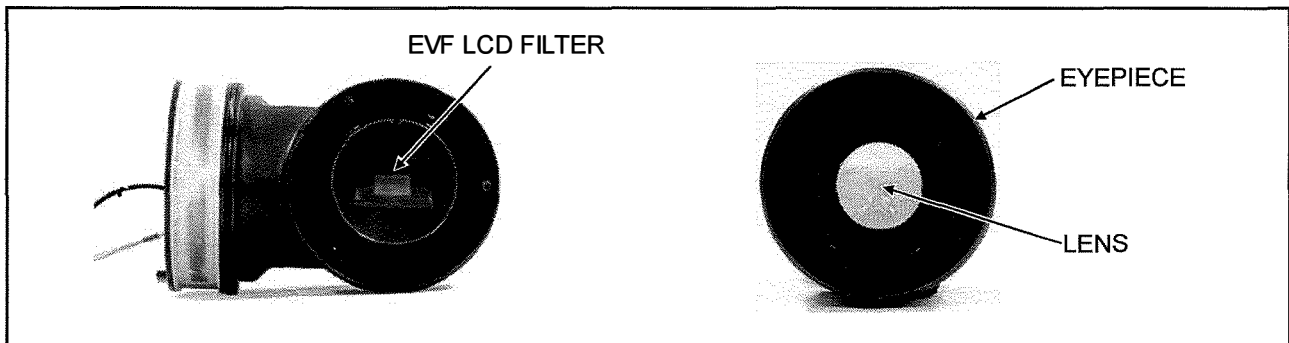

Figure 12-7
1. Do not stick dust etc. to EVF LCD FILTER and LENS of EYEPIECE (inside) as shown in figure 12-7.